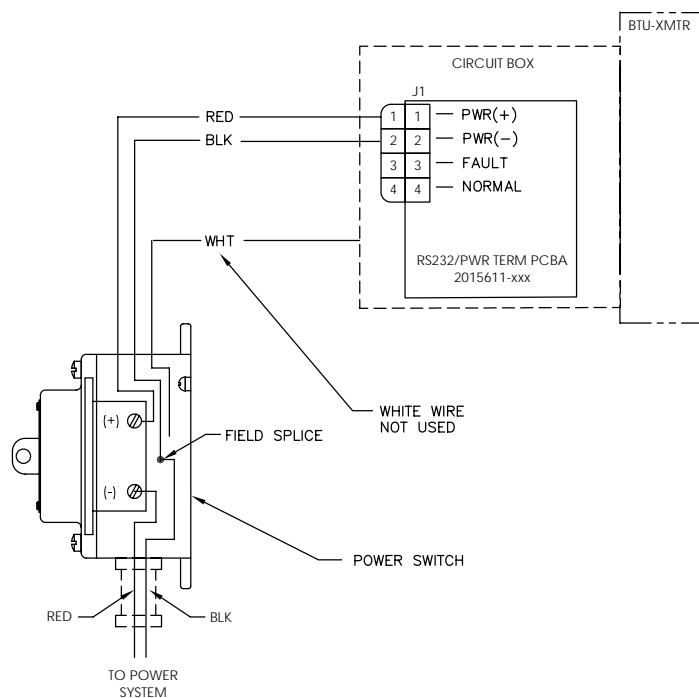

Figure 22 Power Option Wiring Instructions
- 10) Using the Wiring Instructions in Figure 22, loosen terminal screws on back of switch and install each wire on the correct terminal. Field splice the Black wires together. Wire Red wire from outside source to negative terminal screw. White wire is not used.
- 17) Using wiring instructions in Figure 22, make field connections to plug and re-insert into corresponding connector in Btu Circuit Box.